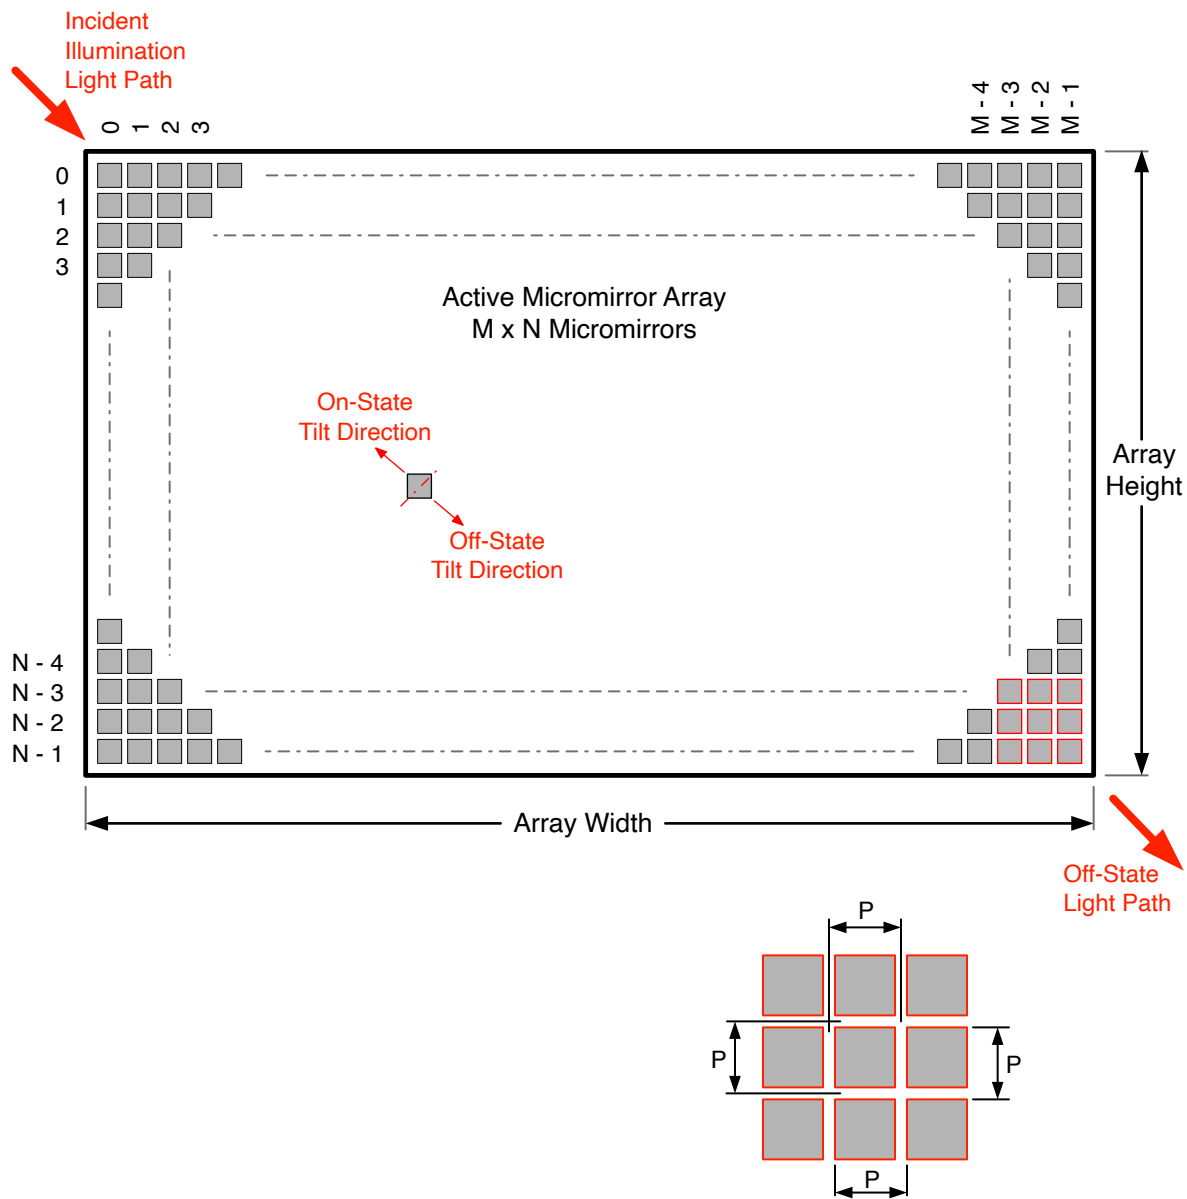

Figure 5-14. Micromirror Array Physical Characteristics
(1) See Figure 5-14.
(2) The structure and qualities of the border around the active array includes a band of partially functional micromirrors called the POM. These micromirrors are structurally and/or electrically prevented from tilting toward the bright or ON state, but still require an electrical bias to tilt toward OFF.
The DLP991U DMD is a 0.99-inch diagonal spatial light modulator that consists of an array of highly reflective aluminum micromirrors. The DMD is an electrical input, optical output micro-electrical-mechanical system (MEMS). The input electrical data interface is a differential high-speed serial interface (HSSI). The DMD consists of a two-dimensional array of 1-bit CMOS memory cells. The array is organized in a grid of M memory cell columns by N memory cell rows. Refer to Figure 5-14. The positive or negative deflection angle of the micromirrors can be individually controlled by writing a '1' or a '0' to each memory cell thereby changing the address voltage of underlying CMOS addressing circuitry.